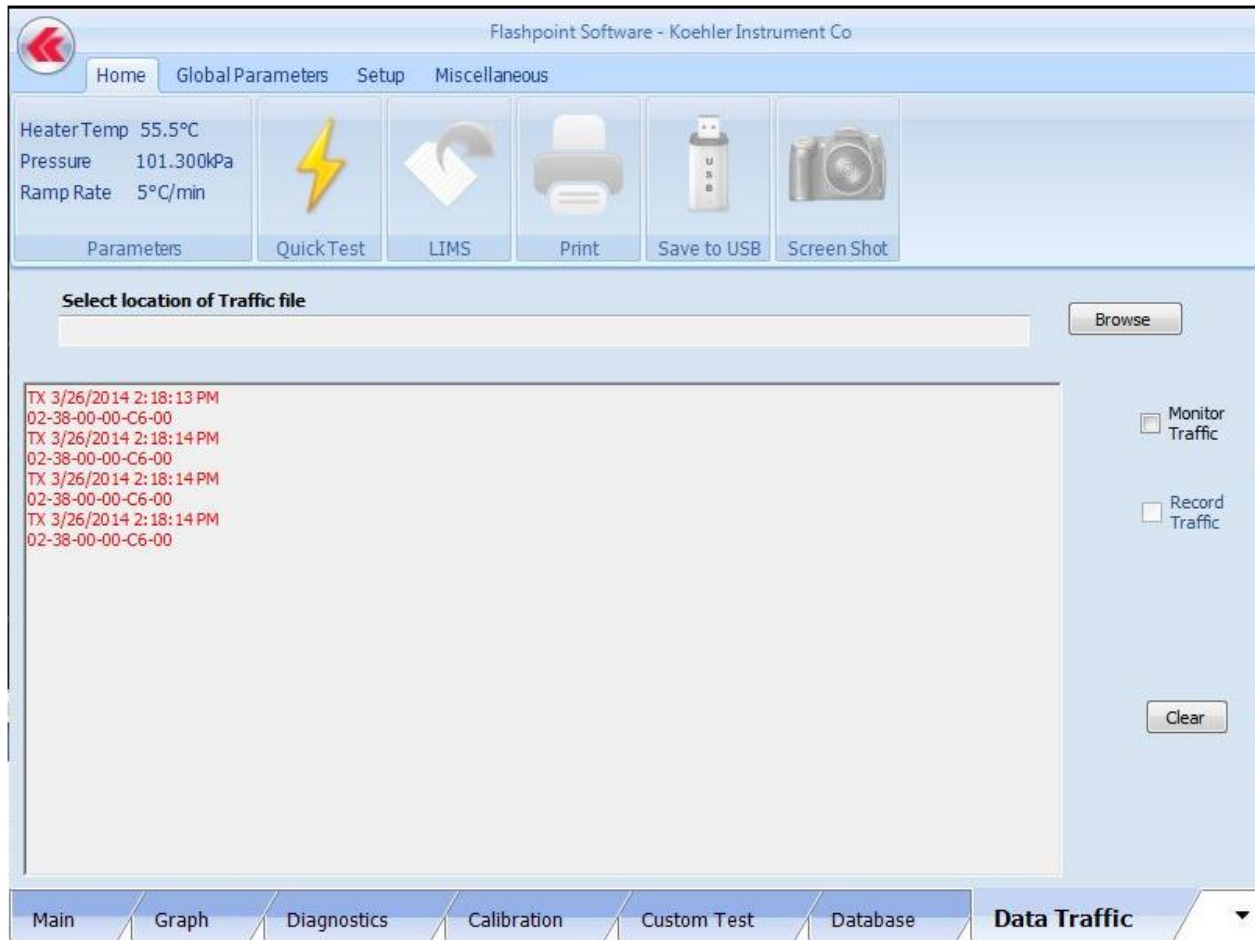

Figure 24: Data Traffic Screen
11. **Data Traffic** - Clicking on the Data Traffic Tab will display the analyzers platform for showing the data traffic or communication data between the systems PC and Microprocessor as shown in **Figure 24** below. When the user first enters this menu, the display screen will be blank. Clicking on the **Monitor Traffic** box will begin displaying the data communication. At this time, a screenshot can be taken of the current data being displayed. The user can also insert a USB drive at this time and click the **Record Traffic** box. This function is useful in a troubleshooting situation. A file containing a record of the data traffic can be useful for a Koehler Technician for diagnosing a problem.